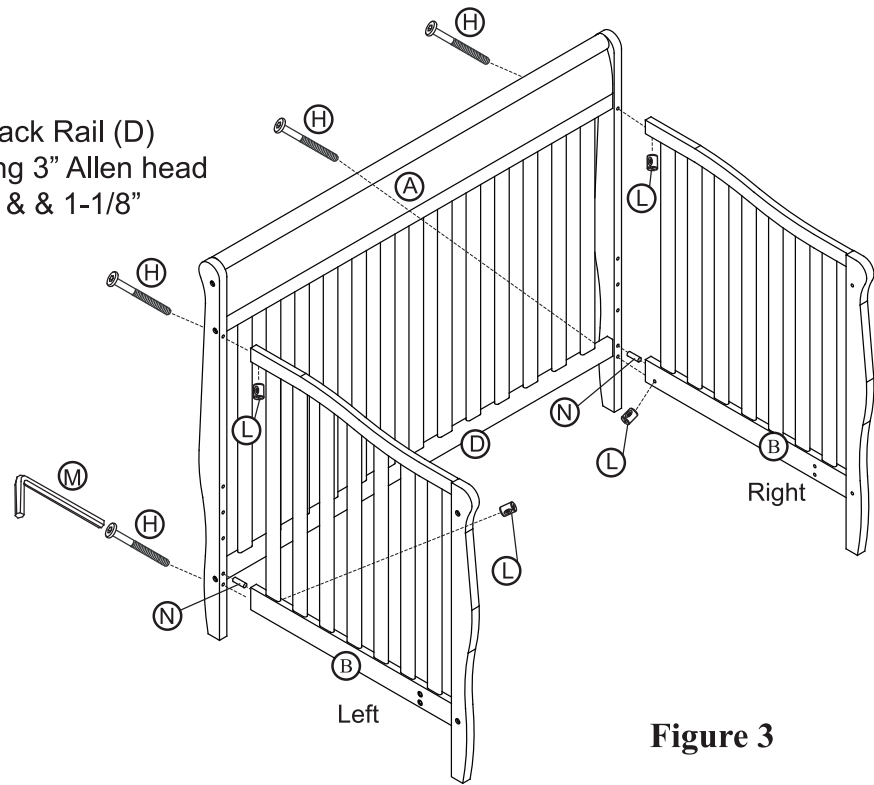

Figure 3
Attach the assembled Back Rail (D) to the Crib Ends (B) using 3" Allen head bolts (H), barrel nuts (L) & 1-1/8" wood dowels (N). See Figure 3.